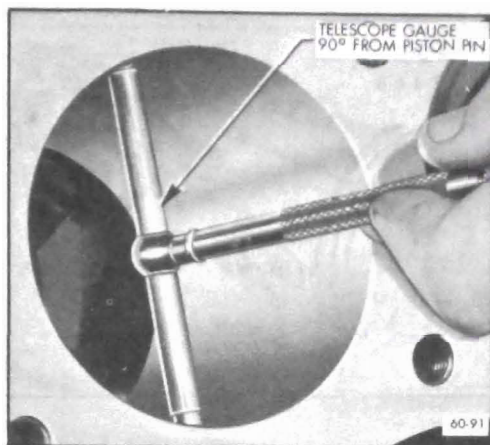

Figure 60-233 Checking Cylinder Bore
1. Expand a telescope gage to fit the cylinder bore at right angles to the piston pin and between 1-1/2" and 2" from the top. See Figure 60-233.